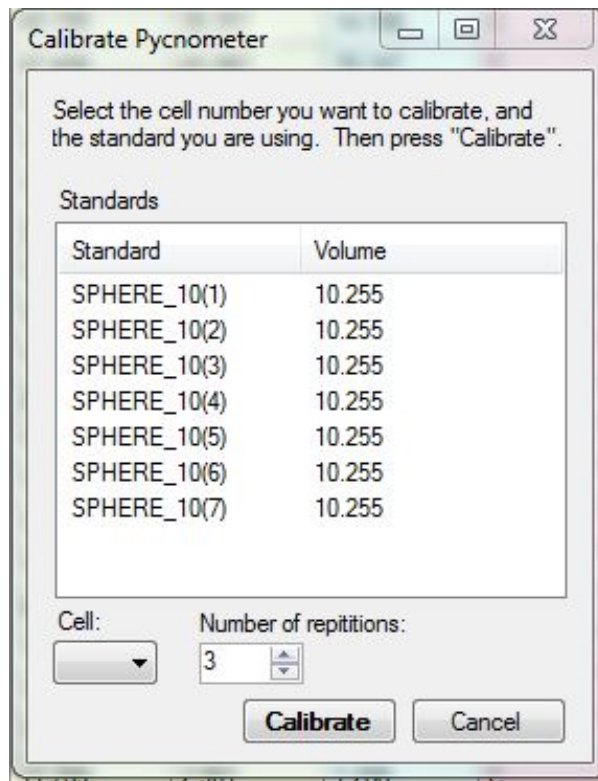

Figure 4. Selecting the standard and then assigning it to the cell.
First select the standard to be used in the calibration. For the 35 cm³ inserts (Wheaton vials and aluminum cups), the best results are obtained by using "SPHERE_10," which is actually a 3 cm³ and 7 cm³ standard used together. Once the standard is selected (again, the normal standard used is "SPHERE_10"), assign it to a pycnometer cell using the pull-down selector as shown in Figure 4. Use at least 3 repetitions for good precision between measurements. Select SPHERE_10(1) and assign to Cell 1, SPHERE_10(2) assign to Cell 2, and so on.